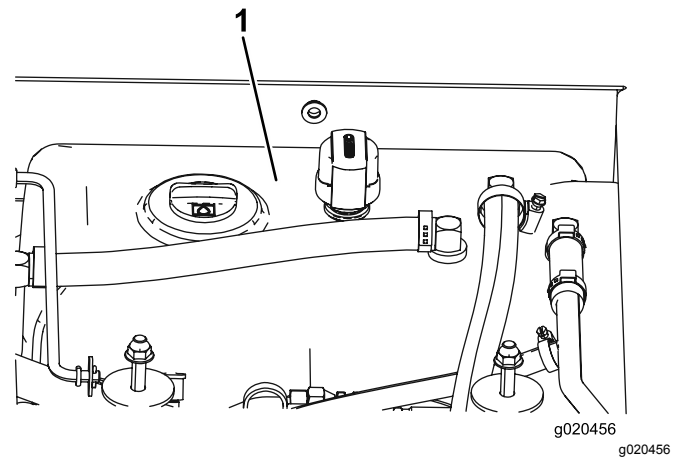

Figure 105
4. Fill the reservoir (Figure 105) with hydraulic fluid; refer to Checking the Hydraulic Fluid \(page 71\).